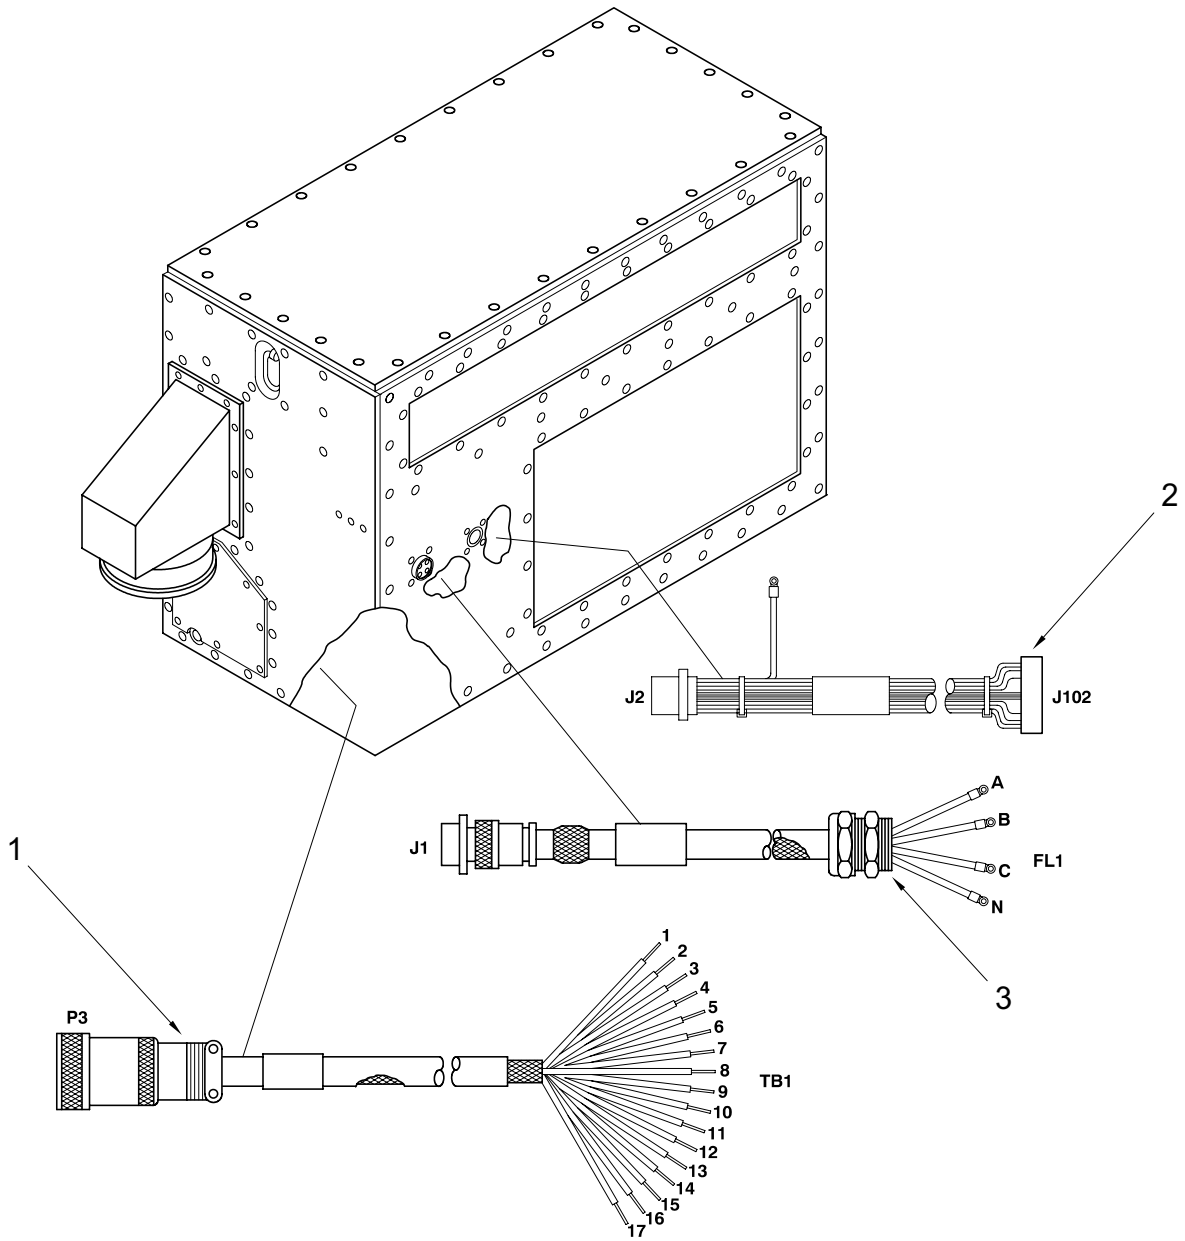

Figure 1. EVAPORATOR HARNESS ASSEMBLIES
4. To remove the J1 to FL1 wiring harness (3), remove screws, washers and nuts from the J1 connector inside the evaporator front cover assembly. Remove the J1 connector. See Figure 1
6. To remove the J2 to J102 wiring harness (2), remove screws, washers and nuts from the J2 connector inside the evaporator front cover assembly. Remove the J2 connector. See Figure 1
1. To install cable harness P3 to TB1 (1), Install wiring in condenser junction box assembly where removed. See wiring diagrams (WP 0045 00, Figure 1). Connect P3 to J3 (See WP 0012 00, EVAPORATOR/CONDENSER ASSEMBLY - SEPARATION AND RECONNECTION ) when reconnecting the evaporator and condenser assemblies.